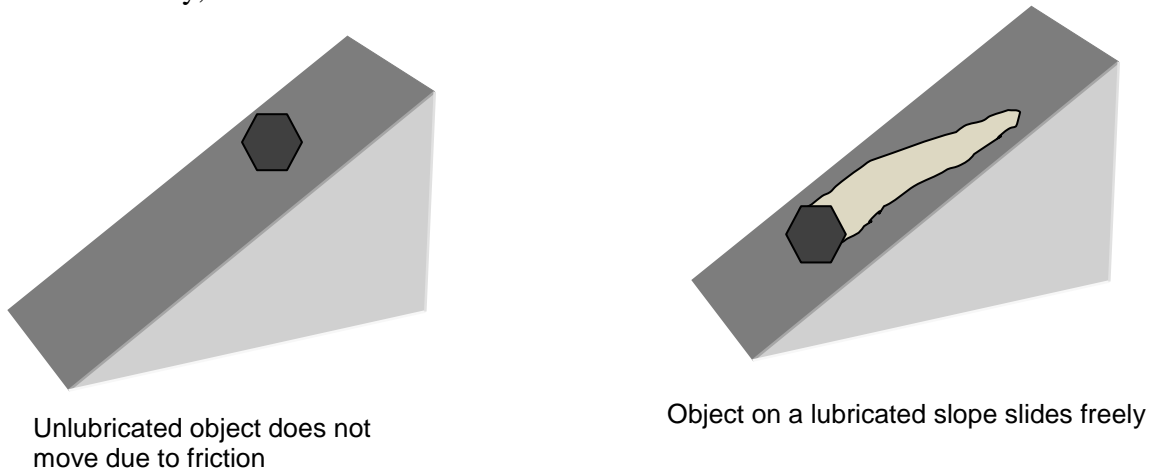

FIGURE 1: Effect Of Lubrication On Friction
- ◆ the use of a lubricant which flows between parts to create a fluid surface that creates less friction than solid surfaces (see Figure 1),